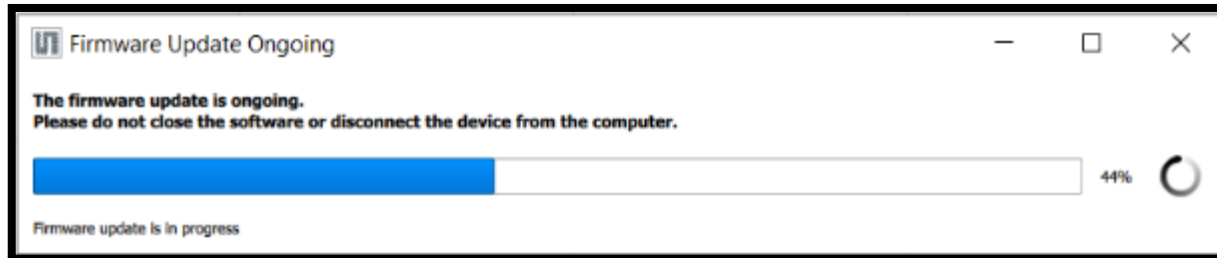

Fig. 26: Firmware update in progress
4. After a successful update, the red LED will turn green again (Fig. 26).